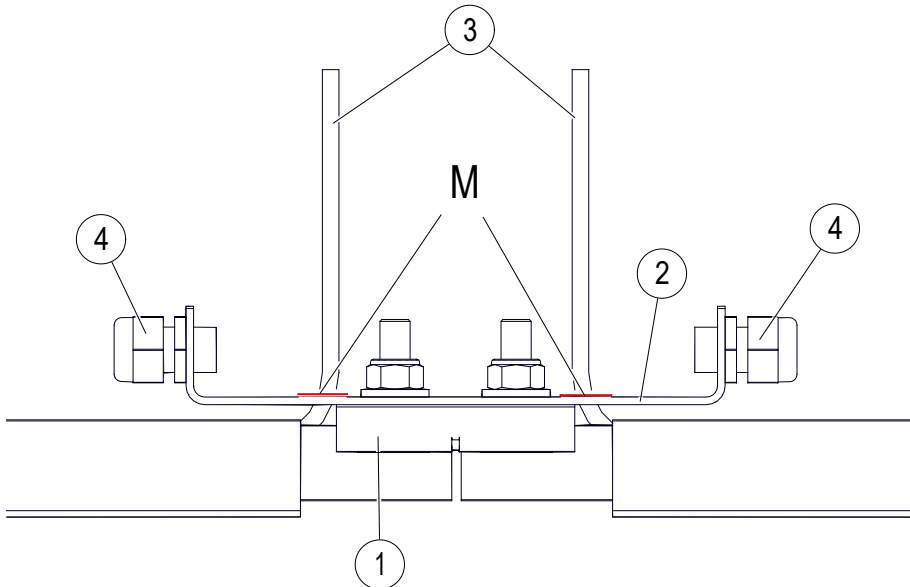

Fig. 31: Heating wire infeed
- Check that the plate for the heating wire infeed is free of burrs and rework it, if necessary (see Fig. 31).
→ After having crimped the heating wire with the cold connection cable (item 3), mount the connector (item 1), the plate for the heating wire infeed (item 2) and the strain relief (item 4). The marking (M) must be in contact with the plate (item 2) (see Fig. 31). In particular, the plate (item 2) must be checked to ensure that it is free of burrs and deburred, if required.